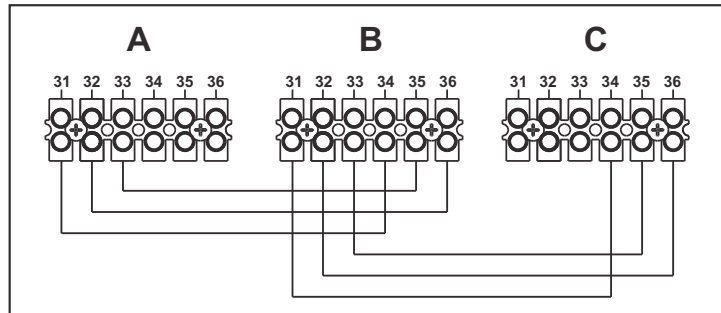

fig. 55 - Connection in cascade
1. Connect the modules as shown in fig. 55 (example with 3 modules)
If this does not occur, disconnect the power supply and check the wiring in fig. 55.